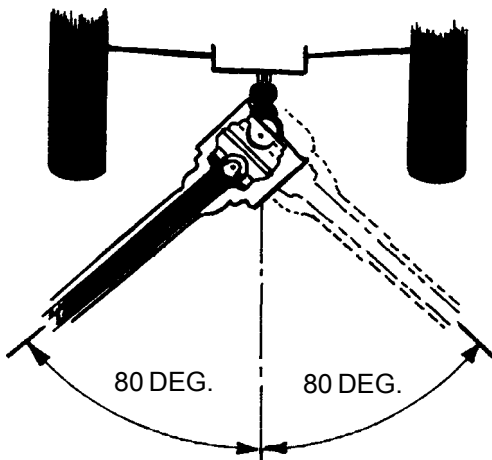

FIGURE 12
2. The constant velocity joint must not be subjected to a joint angle greater than 80 degrees. **FIGURE 12.**